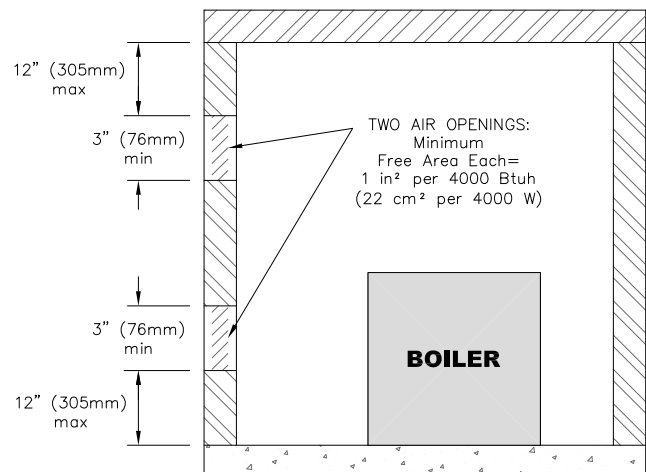
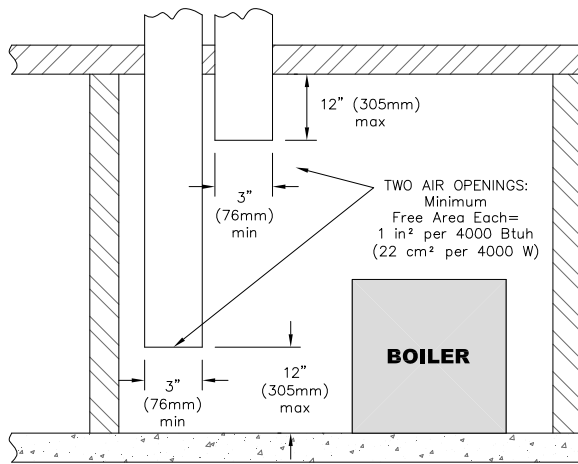

Figure 1.3: Air Openings - All Air Directly from Outdoors
Figure 1.4: Air Openings – All Air from Outdoors through Vertical Ducts
- i. Where communicating directly or through vertical ducts with the outdoors each opening shall have a minimum free area of 1 in² per 4000 Btu/hr (22 cm² per 4000 W) of total input rating for all equipment in the space. See Figure 1.3 for openings directly communicating with the outdoors or Figure 1.4 for openings connected by ducts to the outdoors.